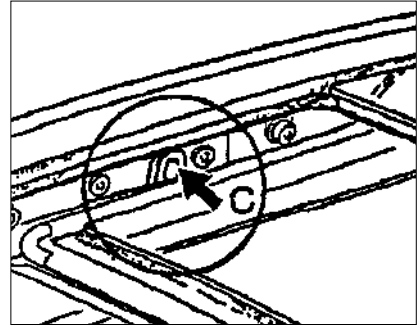

Figure 13
- Open the glass roof completely and check if the rubber stop, part number, 993 562 810 00 for the guide pin of the glass roof is installed (Figure 13, arrow). The rubber stop is approximately 50mm in front of the rear window on the guide tracks and is only accessible when the roof is fully open.